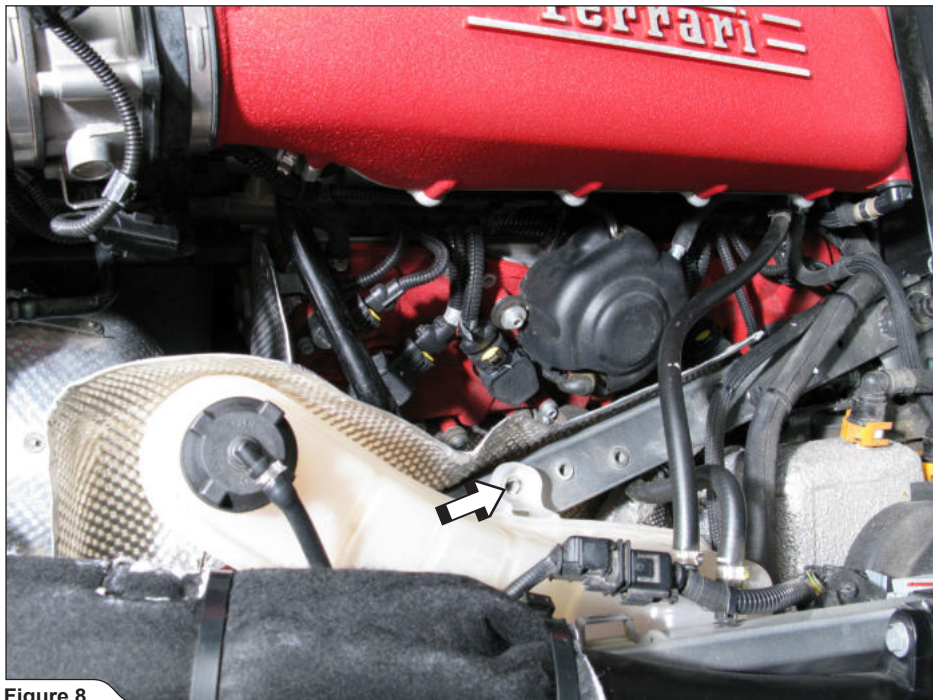

Figure 8
7. **For optional Link Pipes only:** unscrew and remove the expansion tank's aluminium heat shield and unscrew the marked expansion tank's bracket bolt (**Figure 8**).